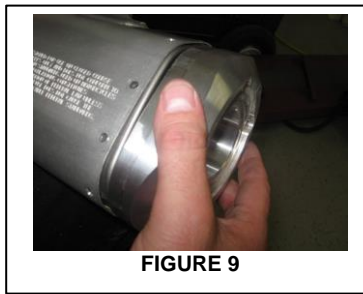

FIGURE 9
14. Install end cap base onto the inner core support with inner core attached. Install the assembly into the muffler canister and ensure inner core is in the proper location. **FIGURE 9**